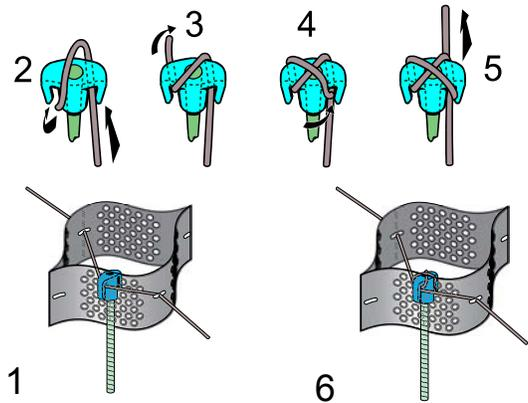

Figure 14 Moore Hitch Non-Slip Connection
- The recommended method of attachment uses the ATRA® Stake Anchor and Moore hitch knot. Refer to Figure 14.